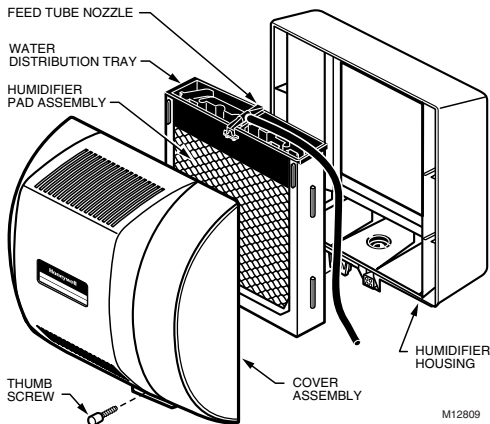

Fig. 1. Disassembling humidifier.
6. Disassemble the humidifier; remove the cover and take out the humidifier pad assembly. See Fig. 1.